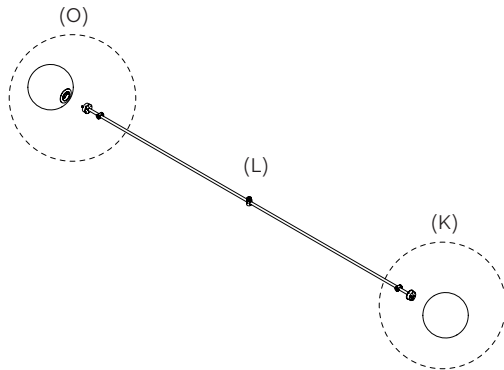

Fig. 13
Secure the Large Glass Sphere 1 (K) with the supplied M2×20 screw and hex key, ensuring it is tight to keep the connectors flush. See Fig.13.